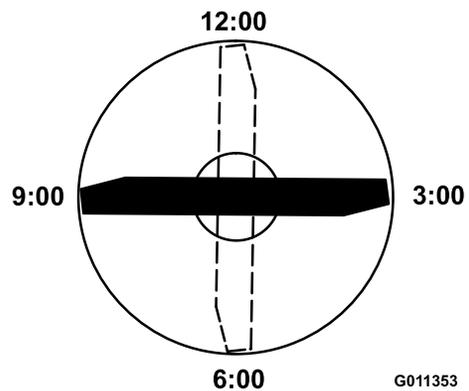

Figure 65
- Position the cutting edge of the marked end of the blade at the 12 o'clock position (straight ahead in the direction of mowing) and measure the height from the table to the cutting edge of the blade (Figure 65).
4. Rotate the marked end of the blade to the 3 o'clock and 9 o'clock positions and measure the heights (Figure 65).